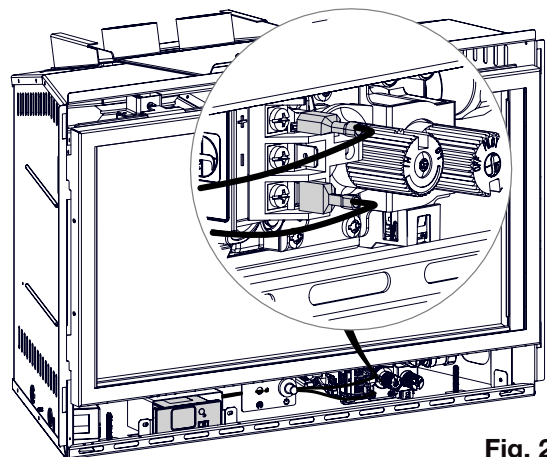

Fig. 2
4. Connect the receiver wires to the "TPTH" and "TH" terminals on the valve (**Fig. 2**).